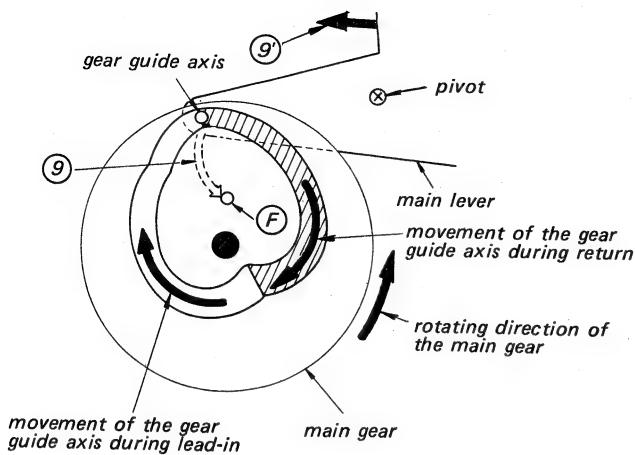

Fig. 3-7.
3. Once the revolving center gear engages the sub-gear (L), the main gear will commence to rotate in the counterclockwise direction due to the driving force supplied by the motor. It will stop again in the position shown in Fig. 3-7.
1. While the record is being played, the main gear and main lever are in the positions as shown in Fig. 3-7.
3. The gear guide axis at the tip of the main lever is moved across to position (F) by following the curved path (9) due to the guiding action of the shaded portion of the groove in the heart-shaped cam positioned on the main gear. The main lever consequently moves across in the direction of the arrow (9) (see Fig. 3-7).